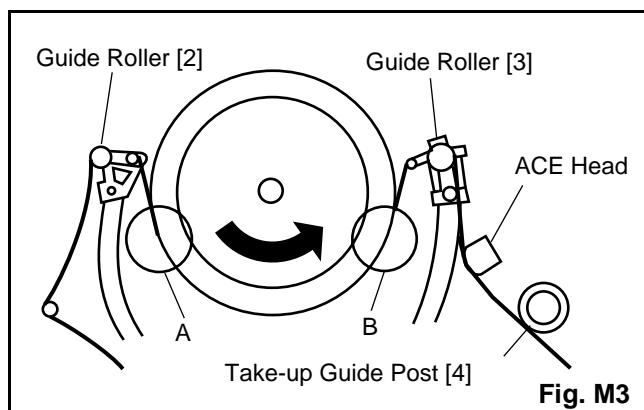
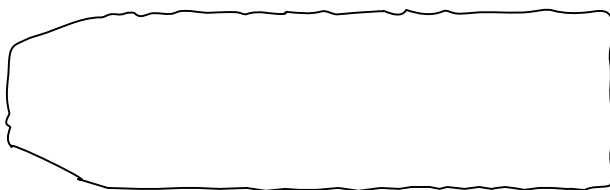
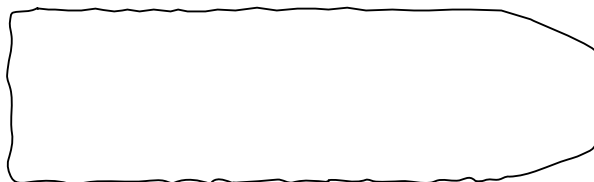
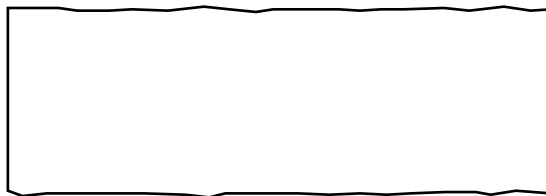

Fig. M3
Fig. M7
Fig. M8
Fig. M9
1. Playback a blank cassette tape and check to see that the tape runs without creasing at Guide Rollers [2] and [3], and at points A and B on the lead surface. (Refer to Fig. M3 and M4.)
2. If creasing is apparent, align the height of the guide rollers by turning the top of Guide Rollers [2] and [3] with a Guide Roller Adj. Screwdriver. (Refer to Fig. M3 and M5.)
3. Check to see that the tape runs without creasing at Take-up Guide Post [4] or without snaking between Guide Roller [3] and AC Head. (Fig. M3 and M5)
2. Playback the Gray Scale on the Alignment Tape (FL6NS8). Set the Tracking Control Circuit to the center position by pressing CH UP button and then "PLAY" button on the unit. Adjust the height of Guide Rollers [2] and [3] (Fig. M3, Page 2-3-3) watching the oscilloscope display so that the envelope becomes as flat as possible. To do this adjustment, turn the top of the Guide Roller with the Guide Roller Adj. Screwdriver.
3. If the envelope is as shown in Fig. M7, adjust the height of Guide Roller [2] (Refer to Fig. M3) so that the waveform looks like the one shown in Fig. M9.
4. If the envelope is as shown in Fig. M8, adjust the height of Guide Roller [3] (Refer to Fig. M3) so that the waveform looks like the one shown in Fig. M9.
5. When Guide Rollers [2] and [3] (Refer to Fig. M3) are aligned properly, there is no envelope drop either at the beginning or end of track as shown in Fig. M9.
Note: Upon completion of the adjustment of Guide Rollers [2] and [3] (Refer to Fig. M3), check the X Value by pushing the CH UP or DOWN buttons alternately, to check the symmetry of the envelope. Check the number of pushes to ensure center position. The number of pushes CH UP button to achieve 1/2 level of envelope should match the number of pushes CH DOWN button from center. If required, redo the "X Value Alignment."